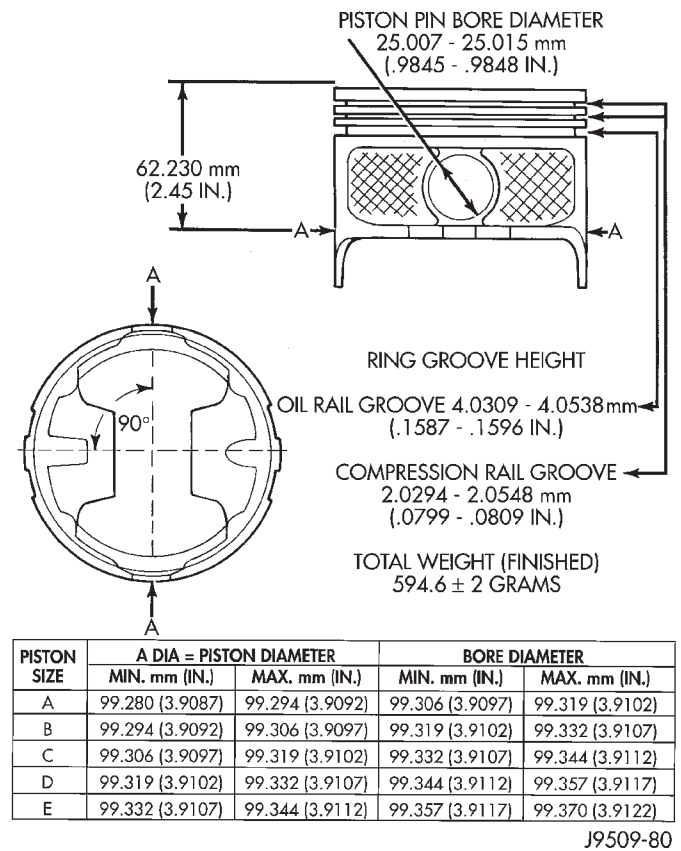

Fig. 66 Piston Measurements
- Check the pistons for taper and elliptical shape before they are fitted into the cylinder bore (Fig. 66).